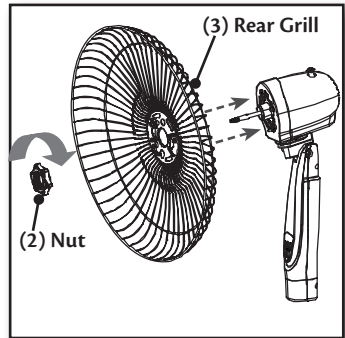

Figure 4.
2. Set the Rear Grill (3) against the front part of the Motor Housing with the handle facing up. The 3 pins on the motor housing should stick through the back of the Rear Grill. **Figure 4.**
3. Screw the Plastic Nut (2) onto the fan and tightly firmly. **Figure 4.**